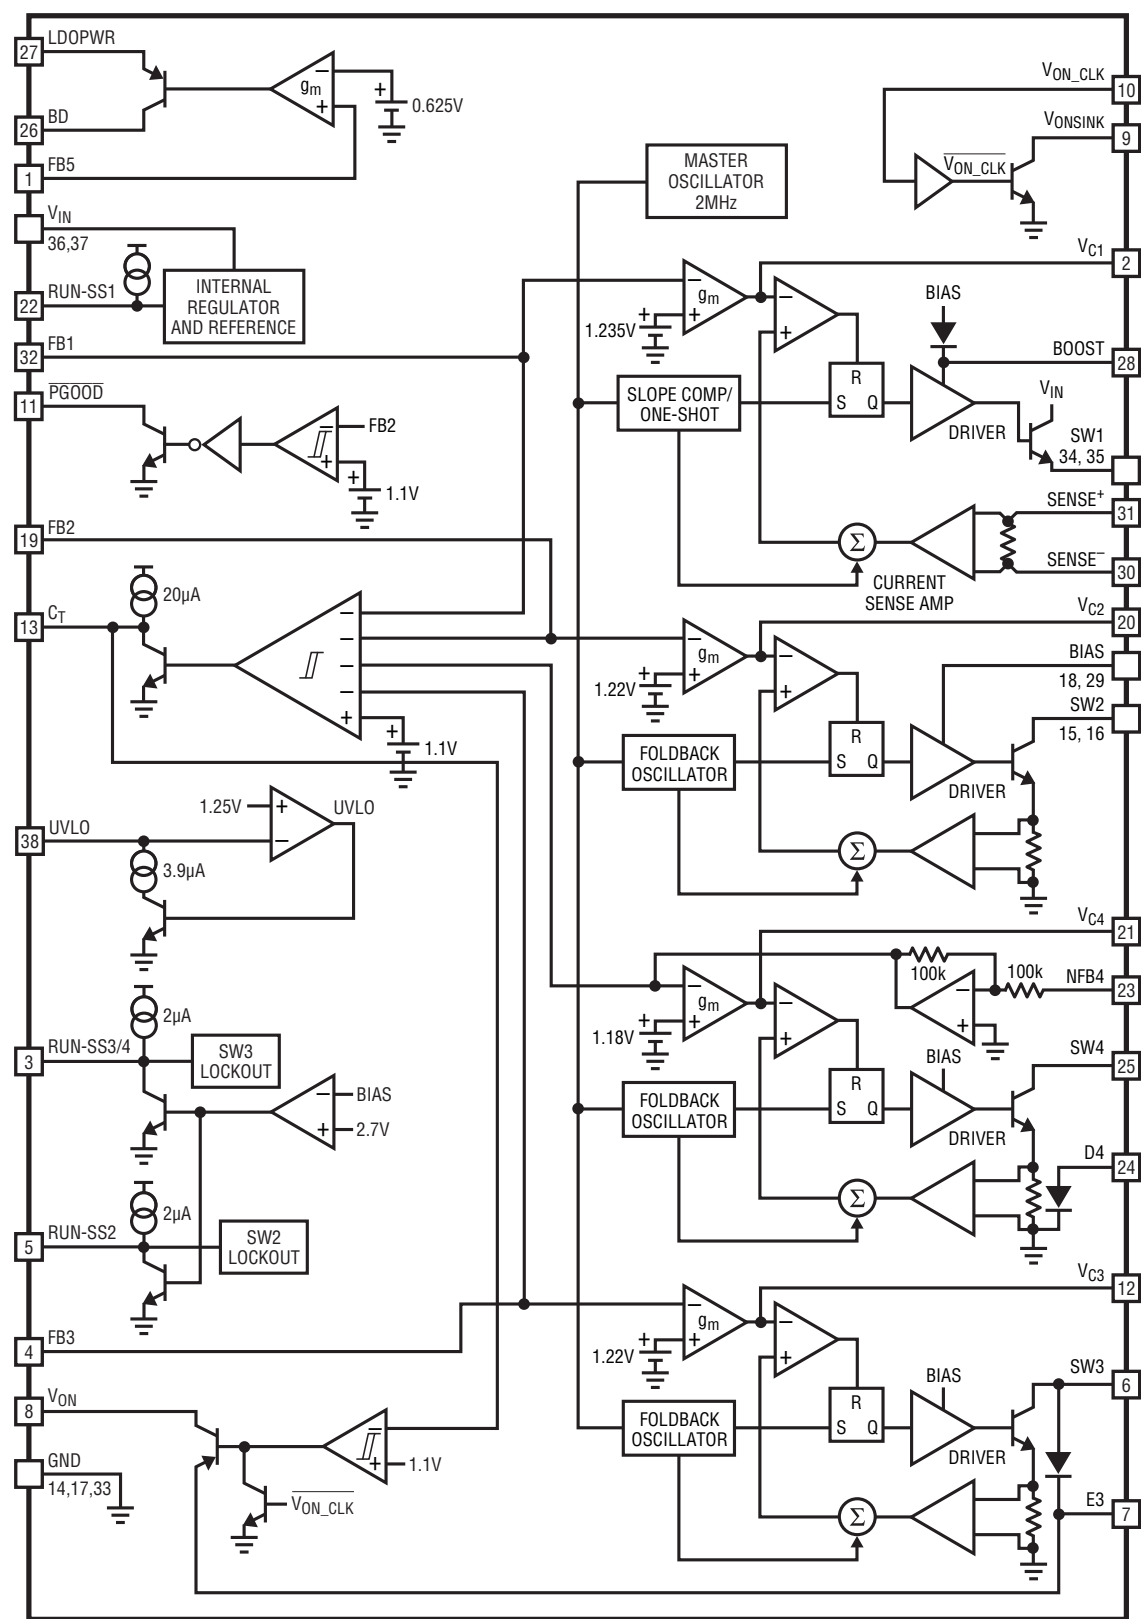

Figure 1
**FB5 (Pin 1):** Feedback Pin. Tie the resistor tap to this pin and set the output of the LDO according to  $V_{LDO} = 0.625 \cdot (1 + R_{14}/R_{15})$ . Reference designators refer to Figure 1.
**FB3 (Pin 4):** Feedback Pin. Tie the resistor tap to this pin and set  $V_{ON}$  according to  $V_{ON} = 1.22V \cdot (1 + R_8/R_9) - 150mV$ . Reference designators refer to Figure 1.
The LT3513 is a highly integrated power supply IC containing four separate switching regulators and a low dropout linear regulator (LDO). Switching regulator 1 is a step-down 2.2A regulator with inductor current sense and an integrated boost Schottky diode. Switching regulator 2 can be configured as a step-up or SEPIC converter and has a 1.5A switch. Switching regulator 3 consists of a step-up regulator with a 0.25A switch as well as an integrated Schottky diode. Switching regulator 4 is a negative regulator with a switch current limit of 0.25A and an integrated Schottky diode. Linear regulator 5 is capable of providing 8mA of current to the base of an external NPN transistor. The regulators share common circuitry including input source, voltage reference and master oscillator. Operation can be best understood by referring to the Block Diagram as shown in Figure 1.
The catch diode (D1 from Figure 1) conducts current only during switch-off time. Average forward current in normal operation can be calculated from: